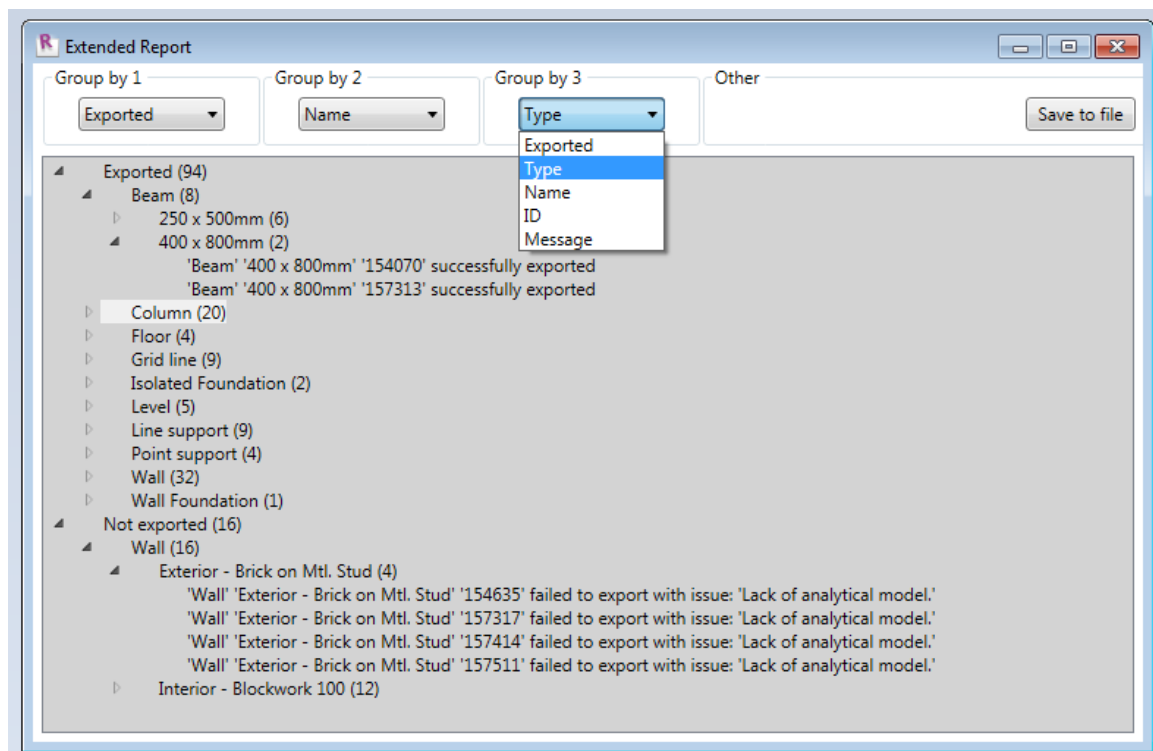

Figure III-56
Figure III-56 shows an example of how the report can be arranged. In the first group, elements are grouped by *Exported* into exported (94 elements) and not exported elements (16). Then elements are grouped by *Name*. There are 8 beams exports, 20 columns, 4 floors, 9 grid lines, etc. There are also 16 walls that were not exported. Finally, the elements are grouped by *Type*.